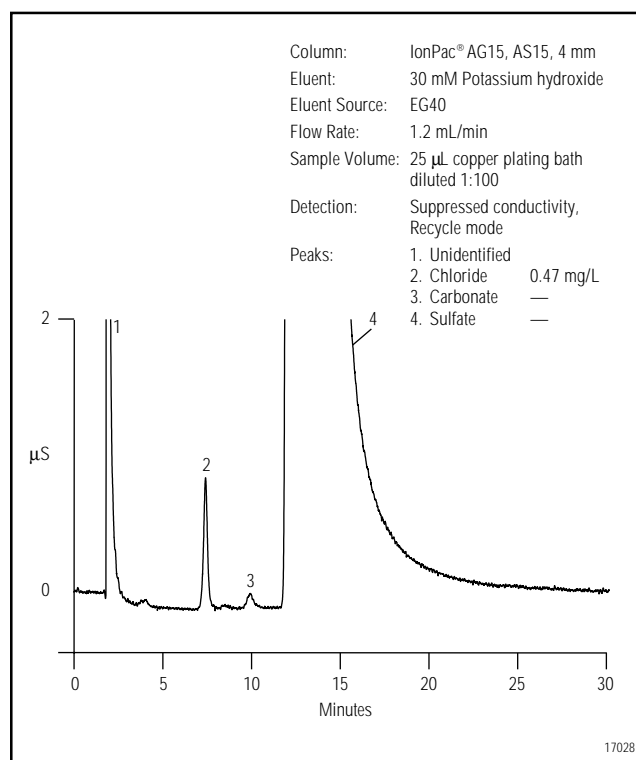

Figure 1. Determination of chloride in acid copper plating bath.
Ion chromatography (IC) provides a convenient method for the determination of chloride in acid copper plating baths. These baths are used for deposition of copper on semiconductor wafers. Monitoring chloride concentration is of interest because it plays an important role in the quality of copper deposition. Compared to standard wet chemical techniques, IC offers improved speed and accuracy for this analysis. An acid copper bath typically contains copper sulfate, sulfuric acid, hydrochloric acid, and a variety of proprietary additives. Figure 1 shows an analysis of a 25- μ L sample of copper plating bath diluted 1:100. Chloride is detected by suppressed conductivity and the EG40 eluent generator is used to prepare the 30 mM potassium hydroxide eluent on-line. Chloride is separated from the excess of sulfate present in the copper plating bath. This Application Update describes the setup and procedure to determine chloride in a copper plating bath using the IonPac[®] AS15 column.